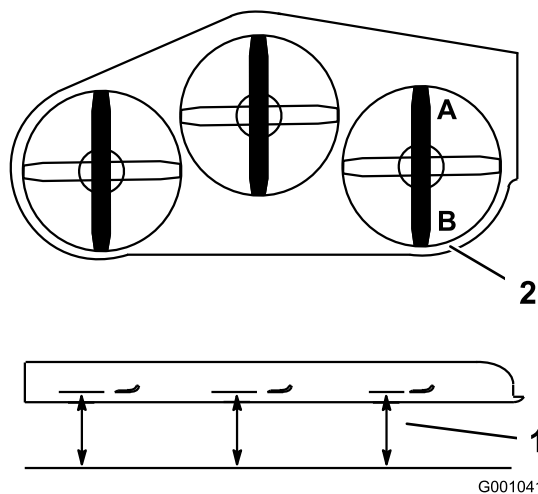

Figure 94
1. Position the **right** blade front-to-rear (Figure 94).
2. Measure the right blade at the **A** location, from a level surface to the cutting edge of the blade tip (Figure 94).
4. Measure the right blade at the **B** location, from a level surface to the cutting edge of the blade tip (Figure 94).
6. The mower blade should be 6 to 10 mm (1/4 to 3/8 inch) lower at position **A** than at position **B** (Figure 94). If it is not correct, proceed to the following steps.